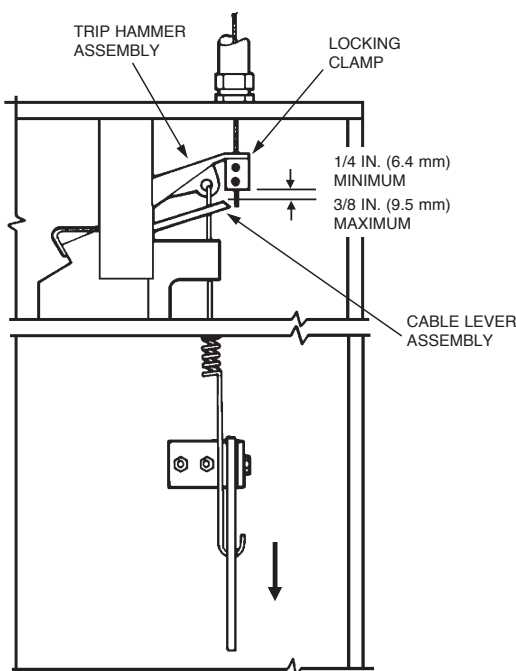

FIGURE 8-9
28. Inspect the base of the wire rope locking clamp to make certain that there is a minimum of 1/4 in. (6.4 mm) and a maximum of 3/8 in. (9.5 mm) clearance between the base of the trip hammer locking clamp assembly and the cable lever assembly. See Figure 8-9.